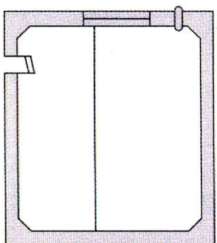

Fig.1
2. As shown on Fig. 1, decide the installed position of guide pipe from the edge of manhole.